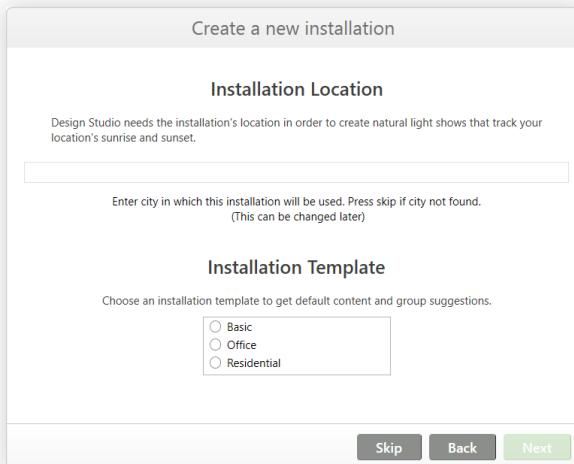

fig. 14
- 6 **Set the installation's location.** See fig. 14. This step can be skipped, and any location information you enter now can be modified later. Setting the installation location allows Design Studio to create a default natural light (circadian) show for your convenience. The show will be usable with the Ketra mobile app as soon as you create the installation.
- 7 **Choose an installation template.** See fig. 14. This step can be skipped, but it is important in determining the default content that will come with your installation, including the content that will be assigned to Ketra keypads as soon as you provision them. Picking a template will therefore help you streamline programming after creating the installation. We recommend picking either Office or Residential.